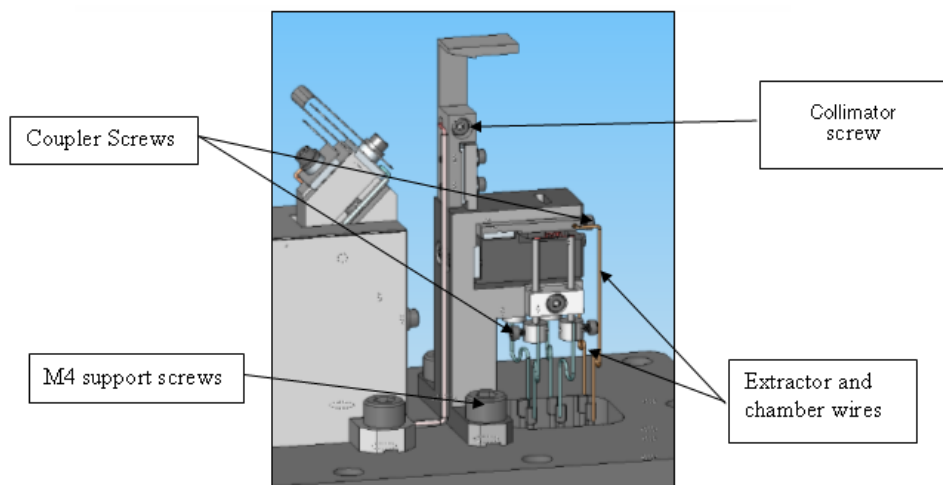

Figure 5: Ion Support Assembly
- 11. Use an M1.5 Allen wrench to unscrew the six coupler screws and the collimator screw (Figure 5: Ion Support Assembly).